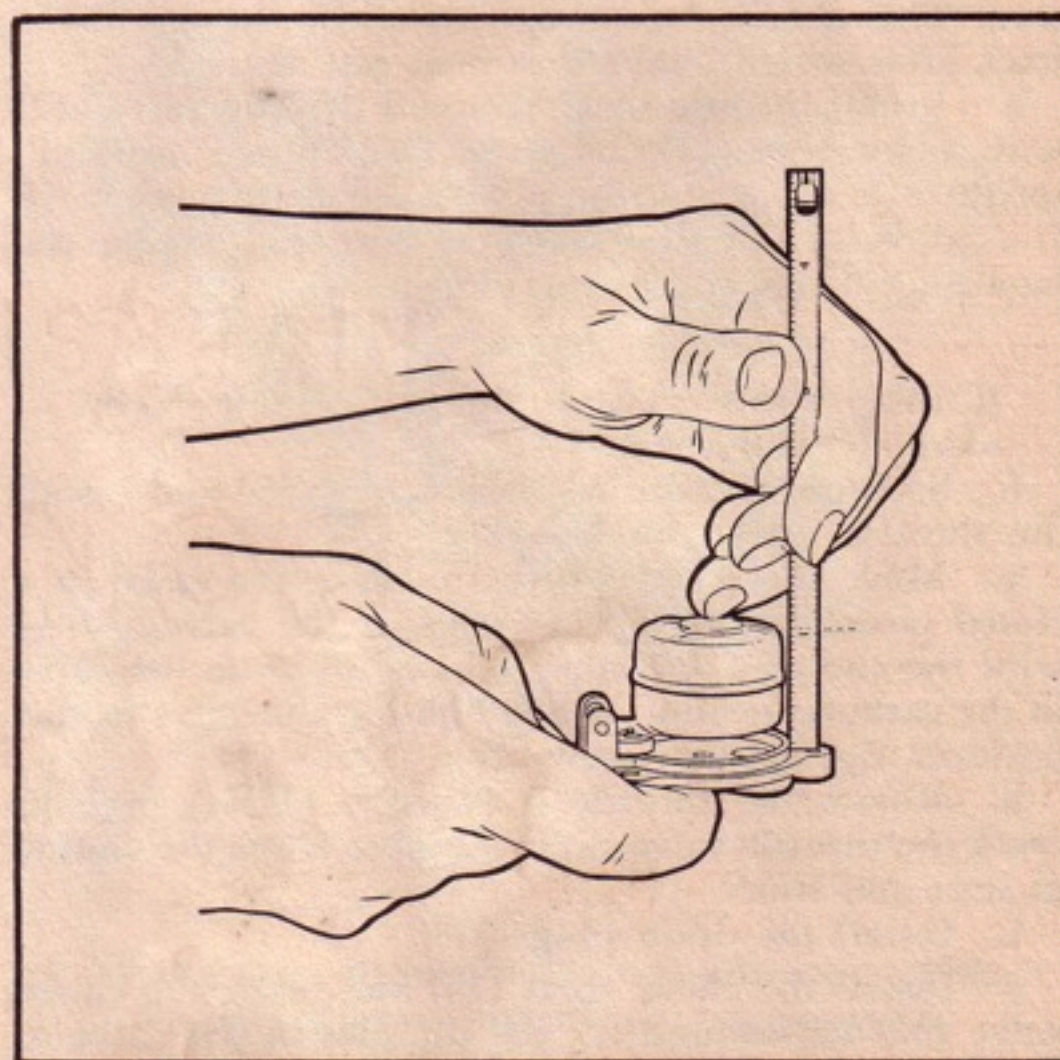

Figure D-3. Tillotson Model ML(W-34) Carburetor
1. DISASSEMBLY. (See figure D-3.)
b. Remove the bowl cover (3) by taking out the three attaching screws (1) and lockwashers (2).
c. Remove the bowl cover gasket (9).
d. Press the float pin (4) out by using a long-nosed, slender-point punch.
e. Drop out the float (5) and inlet needle (6).
f. Remove the needle seat (7), using a wide-blade screwdriver to prevent damage to the screw slot.
g. Remove the throttle valve (12) by taking out the screw (10) and lockwasher (11).
h. Remove the screw (13), lockwasher (14), throttle lever (15) and washer (16).
i. Lift out the throttle shaft (17).
j. Spread the slot in the end of the choke shaft (34) and remove the choke spring (33).
q. If disassembly of the power adjusting needle assembly (22) is required, separate the parts in the order shown in figure D-3.
r. Remove the drain plug (37).
2. CLEANING, INSPECTION, AND INTERNAL ADJUSTMENTS. (See figures D-3 and D-4.)
c. Install the needle seat (figure D-3, reference 7) with a new gasket (8), needle (6) and float (5) in the bowl cover (3). Secure the float (5) to the bowl by inserting the float pin (4).
d. Hold the bowl cover (3) upside down and measure from the machined surface (gasket surface) of the bowl cover to the bottom surface of 1-3/32 inch at the location specified in the preceding step.
3. REASSEMBLY. (See figure D-3.)